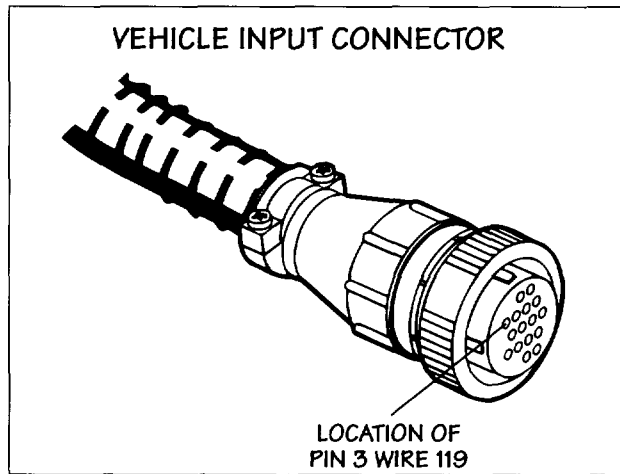
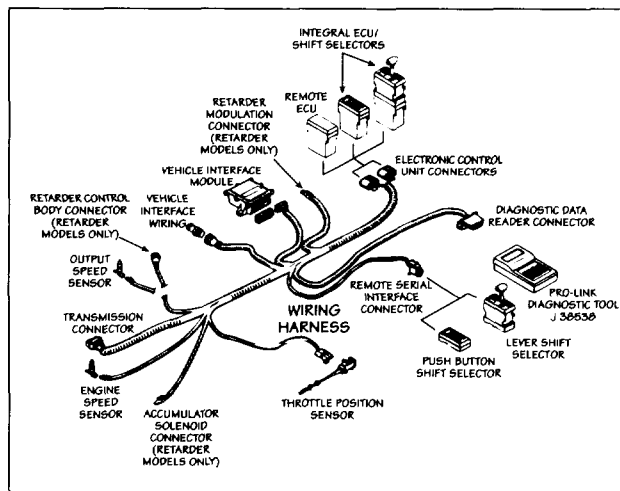
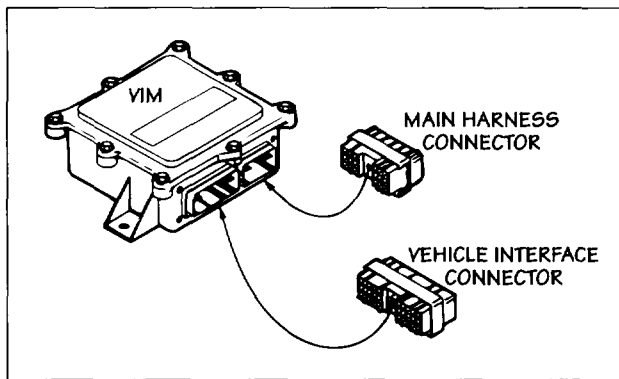

FIG. 3
FIG. 4
FIG. 5
- Locate the Vehicle Input Connector. The Allison Vehicle Input Connector is illustrated in Fig. 3. Refer to Fig. 4 for location of the Vehicle Input Connector.
4. Locate the Vehicle Interface Module (VIM). The VIM is typically located near the ECU. Refer to Fig. 4 (page 4) for location of the VIM. The Vehicle Interface Connector is a rectangular, 30-pin connector located at the bottom left-hand corner of the VIM. Refer to Fig. 5 for the Vehicle Interface Connector location.